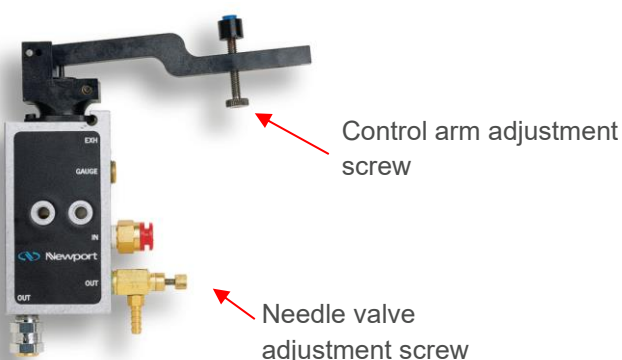

Figure 12 Leveling valve diagram
3. Be sure that the needle valves adjustment screws are not closed completely. See Figure 12.